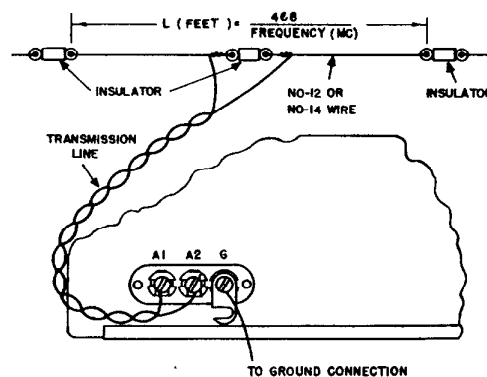

Fig. 3. Doublet Antenna Installation Using Twisted Pair Lead-In
2. Construct the antenna as shown in Fig. 3.